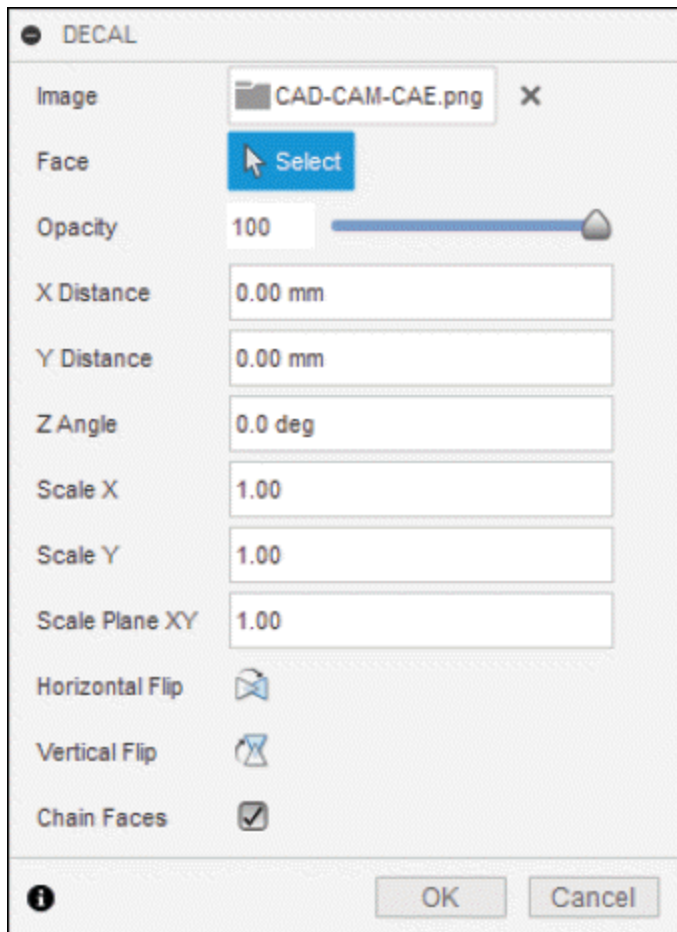

Figure-9. Updated DECAL dialog box
- The **Select** button of **Face** section is active by default. Click on the face of model to which decal is to be applied. The updated **DECAL** dialog box will be displayed; refer to Figure-9.